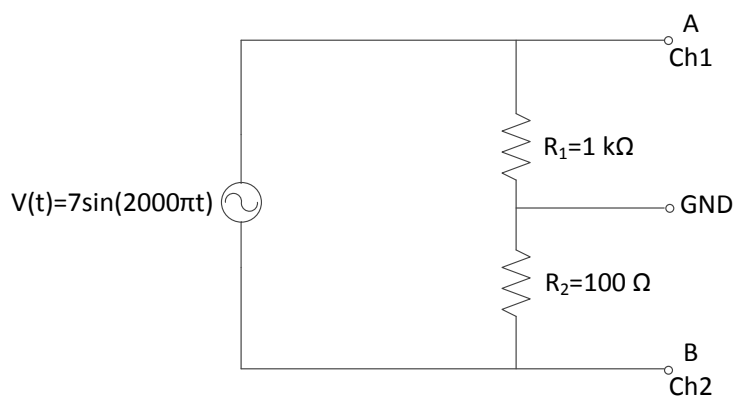

Figure 4
5. To demonstrate how can the oscilloscope be used to measure current connect the circuit as shown in Figure 4